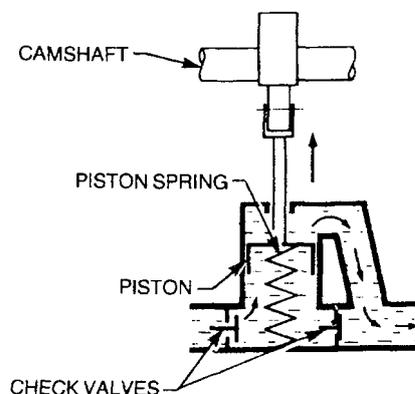

**Figure 12 Fuel Sedimenter**
48. Two sedimenters (refer to Figure 12) are incorporated in the fuel lines between the fuel tanks and the transfer pump to trap any water or heavy contaminants that may be in the fuel. A drain plug in the bottom of each sedimenter housing allows any water or contaminants to be drained off. The sedimenter is mounted on the chassis rail behind the fuel tank.